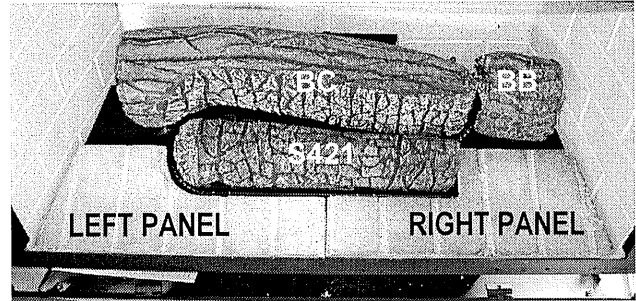

Figure I-1
## I. LOG INSTALLATION. See Figures I-1 & I-4.
(1) 'BL' log (1) 'X5' log
- A) Position the left & right bottom refractory panels onto front of the burner cover and as shown in figure I-1.
- C) Place remaining base logs 'BB', & 'BC' into position on the burner cover aligning the holes in the bottom of the logs to the mounting studs as shown in figure I-1.